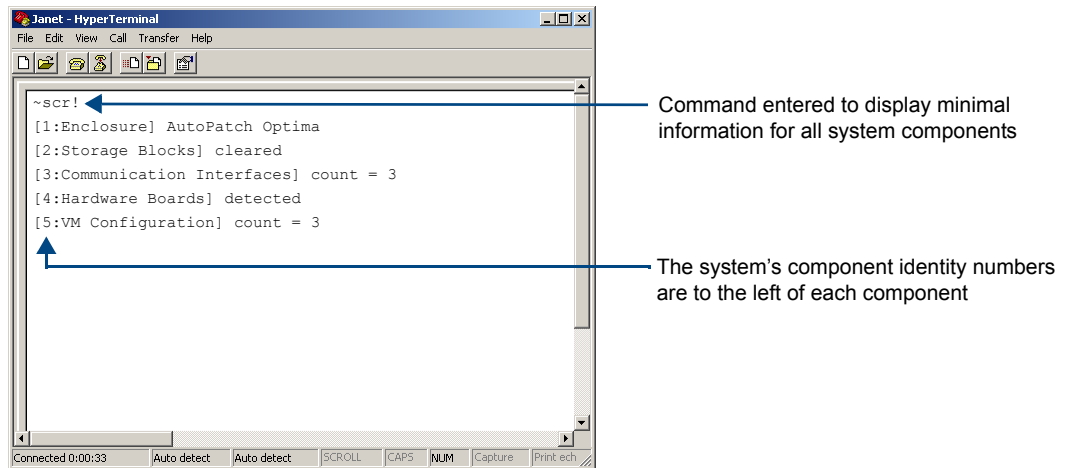

FIG. 34 Example of Optima SD splash screen
The splash screen can be accessed using a terminal emulation program, such as HyperTerminal (see page 30). One of four verbosity** settings is specified, which provides either a list of the five system components with minimal information (FIG. 34) or a level of detailed information on one of the five components. Only one verbosity setting and one component setting can be entered in a command. The order in which the verbosity and component settings are entered is interchangeable.
- If both settings are omitted during a query (`~scr!`), the information displayed will be at the lowest verbosity level for all components (`v0i0`) (FIG. 34 on page 63).
Note: *Either of these commands provides a “menu” of the identity numbers and their corresponding components (FIG. 34 on page 63).*